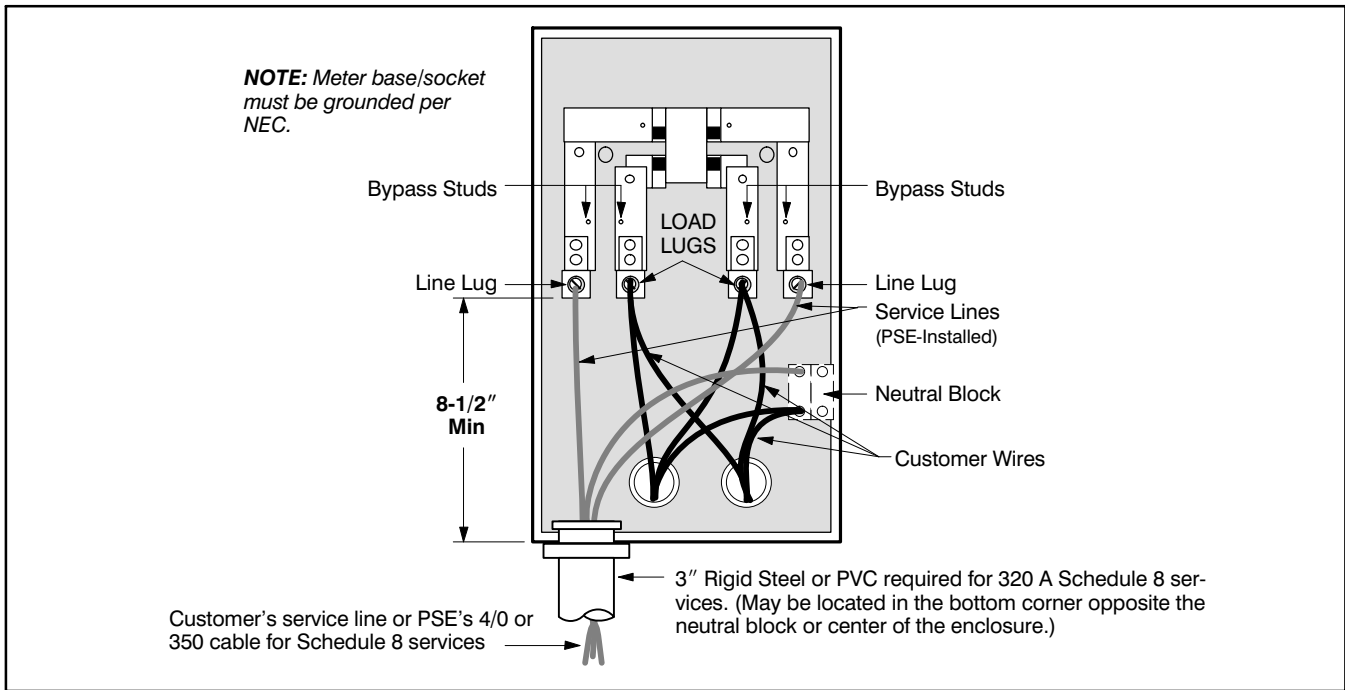

Figure 24 Typical arrangement of service conductors for underground commercial single-phase 320 A service
- Service conductors shall be arranged in the socket to avoid interfering with the meter installation or operation of the manual block bypass (see *Figures 24–26*).